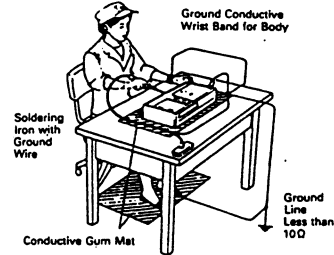

Figure 3
1. Remove the CD mechanism assembly by referring to the disassembly instructions (Figure 3).